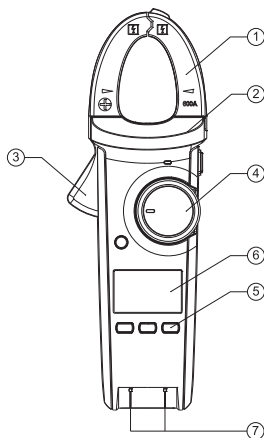

Figure 1
V. External construction (See Figure 1)
“Figure 1” indicates that battery voltage is lower than working voltage, reminding replacing battery.